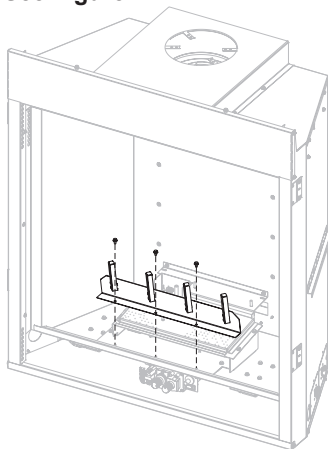

Figure 7
4. Remove grate by disassembling and removing the three screws on top panel. Retain grate and screws for reassembly. **See Figure 7.**
15. Reinstall the grate three screws removed in step 4. **See Figure 7.**